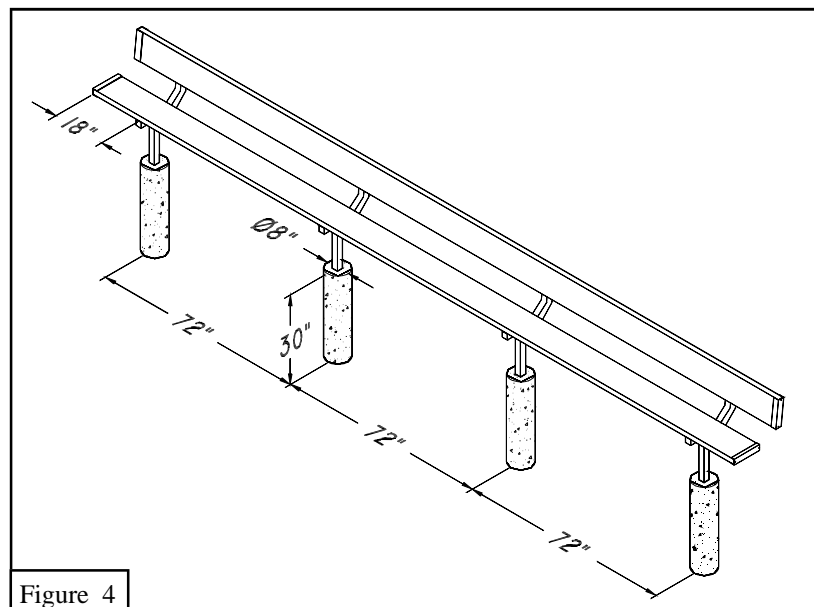

Figure 4
4. Locate and dig four 8" diameter holes 30" deep and 72" apart from center to center. See Figure 4.